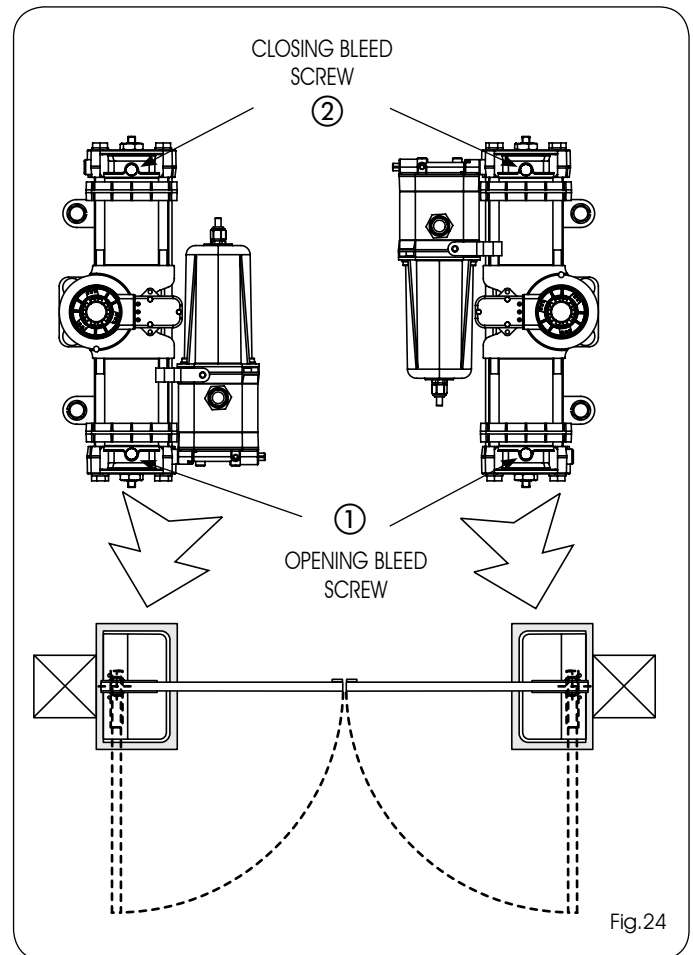

Fig.24
- 2) While the leaf is moving, loosen the opening bleed screw (Fig.24 ref.①)
- 6) While the leaf is moving, loosen the closing bleed screw (Fig.24 ref.②)